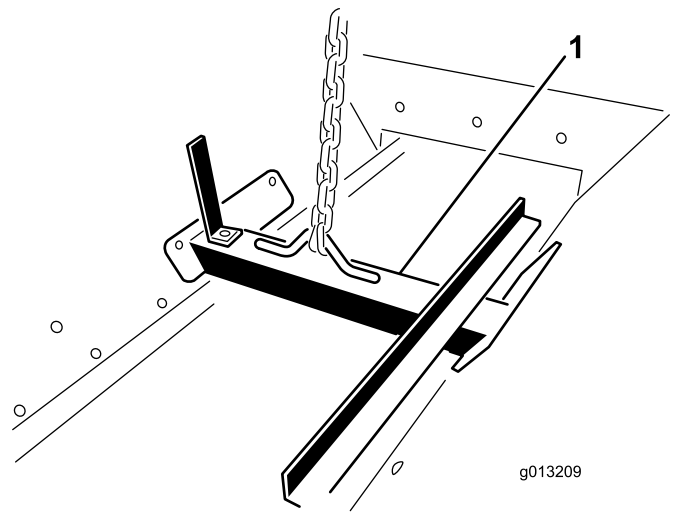

Figure 16
1. Attach a lifting device to the lifting bracket bolted inside the hopper assembly (Figure 16).